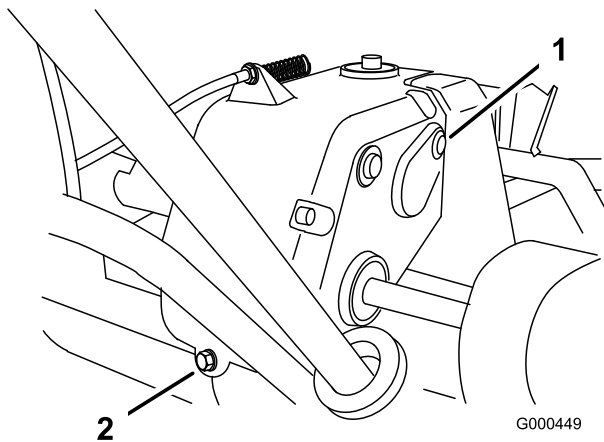

Figure 29
2. Remove the check/fill plug from the right-hand side of the transmission (Figure 29).